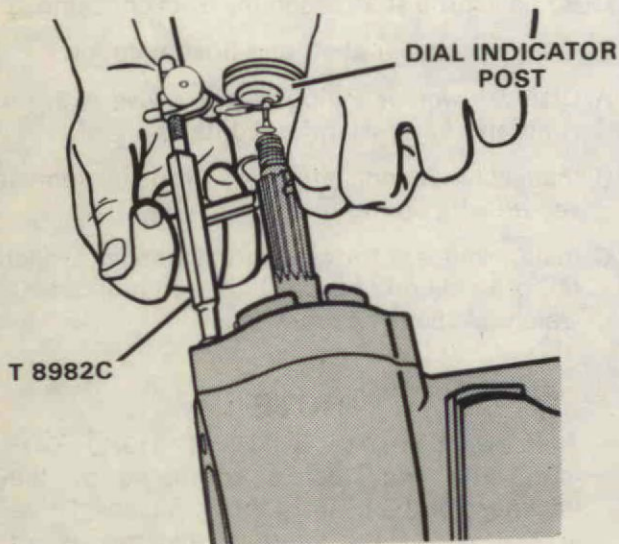

Figure 65. Checking Propeller End Float
- G. Install dial indicator post (Special Tool No. T 8982C) in upper bearing cage screw hole and one (1) prop shaft bearing cage screw in lower hole. Tighten until snug.
- H. Rotate gear housing so that prop shaft is vertical. Install dial indicator holder (Special Tool No. T 8901) and dial indicator (Special Tool No. T 8902) on dial indicator post T 8982C. Set foot of dial indicator so that it contacts machined surface at end of prop shaft. Figure 65.